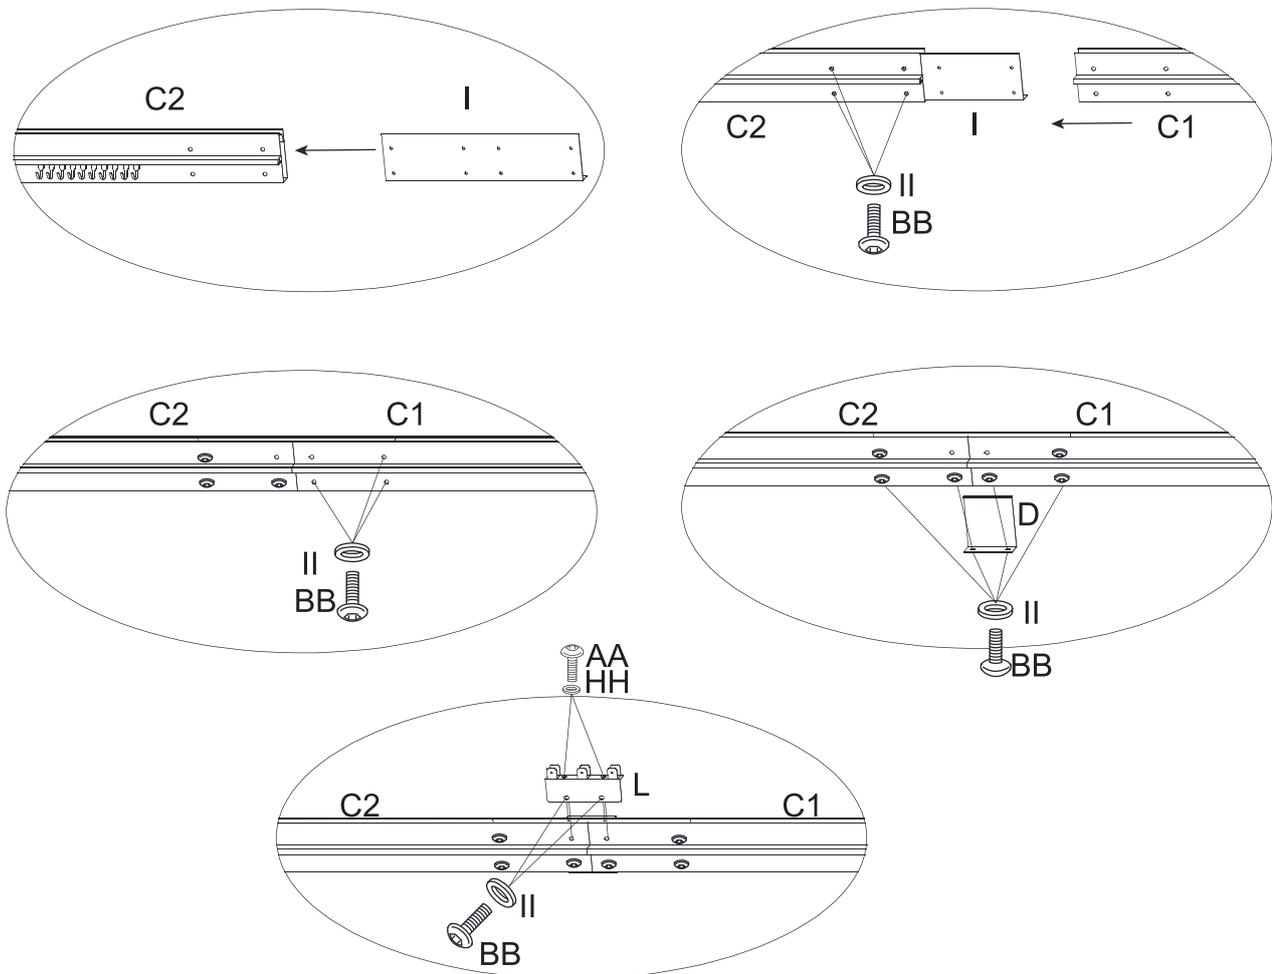

Figure 2.2
2.2. Connect the Short Left Lintel (C1) with the Short Right Lintel (C2) through the Lintel Connector -Large (I) by bolt (BB) and washer (II), then connect the Top Beam Guard (L) to the joint of the Lintels (C1/C2) by bolt (AA/BB) and washer (HH/II), put the Lintel Cover - Center (D) onto the joint of the two lintels with bolt (BB) and washer (II), pay attention to install the screws based on the orders shown in the illustration. Figure 2.2.